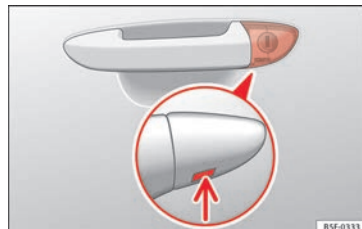

Fig. 3 Driver door lever: hidden lock cylinder.
- Insert the key blade into the lower opening in the cover on the driver door handle »» Fig. 3 (arrow) then remove the cover upwards.